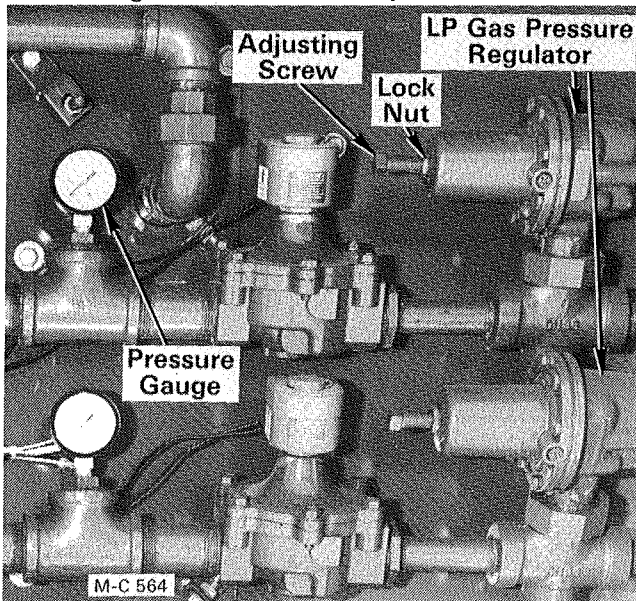

Figure 14 - LP Gas Two Burner Cabinet
10. **LP Gas Only** - With the burner operating, check the reading on the gas pressure gauge in the manifold see Figure 14. It should be approximately 8 to 10 pounds (less in mild weather). If not, loosen the locknut on the pressure regulator adjusting screw, see Figure 14. Turn the adjusting screw IN to increase and OUT to decrease pressure.